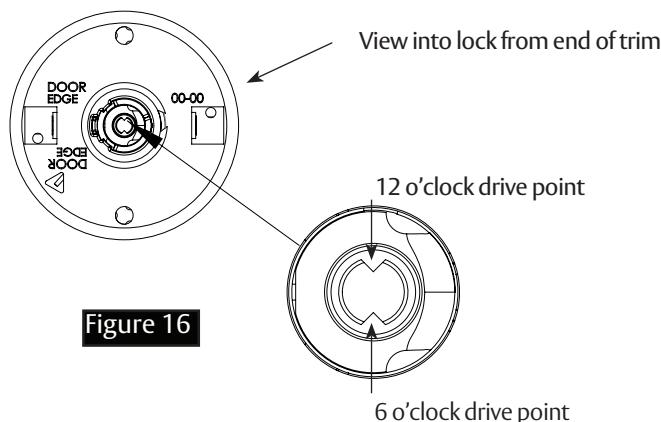

Figure 16
- Use a flat blade screwdriver to rotate cam until the driver points are in a 6 and 12 o'clock position. (See Figure 16 on next page)
With driver points at 6 and 12 (See Figure 16), rotate key 45° in either direction and slide lever on over the lever catch. Confirm the lever will not pull off.
- 2a. Use a slotted screwdriver to rotate each cam until the driver points are in a 6 and 12 o'clock position. (See Figure 16)